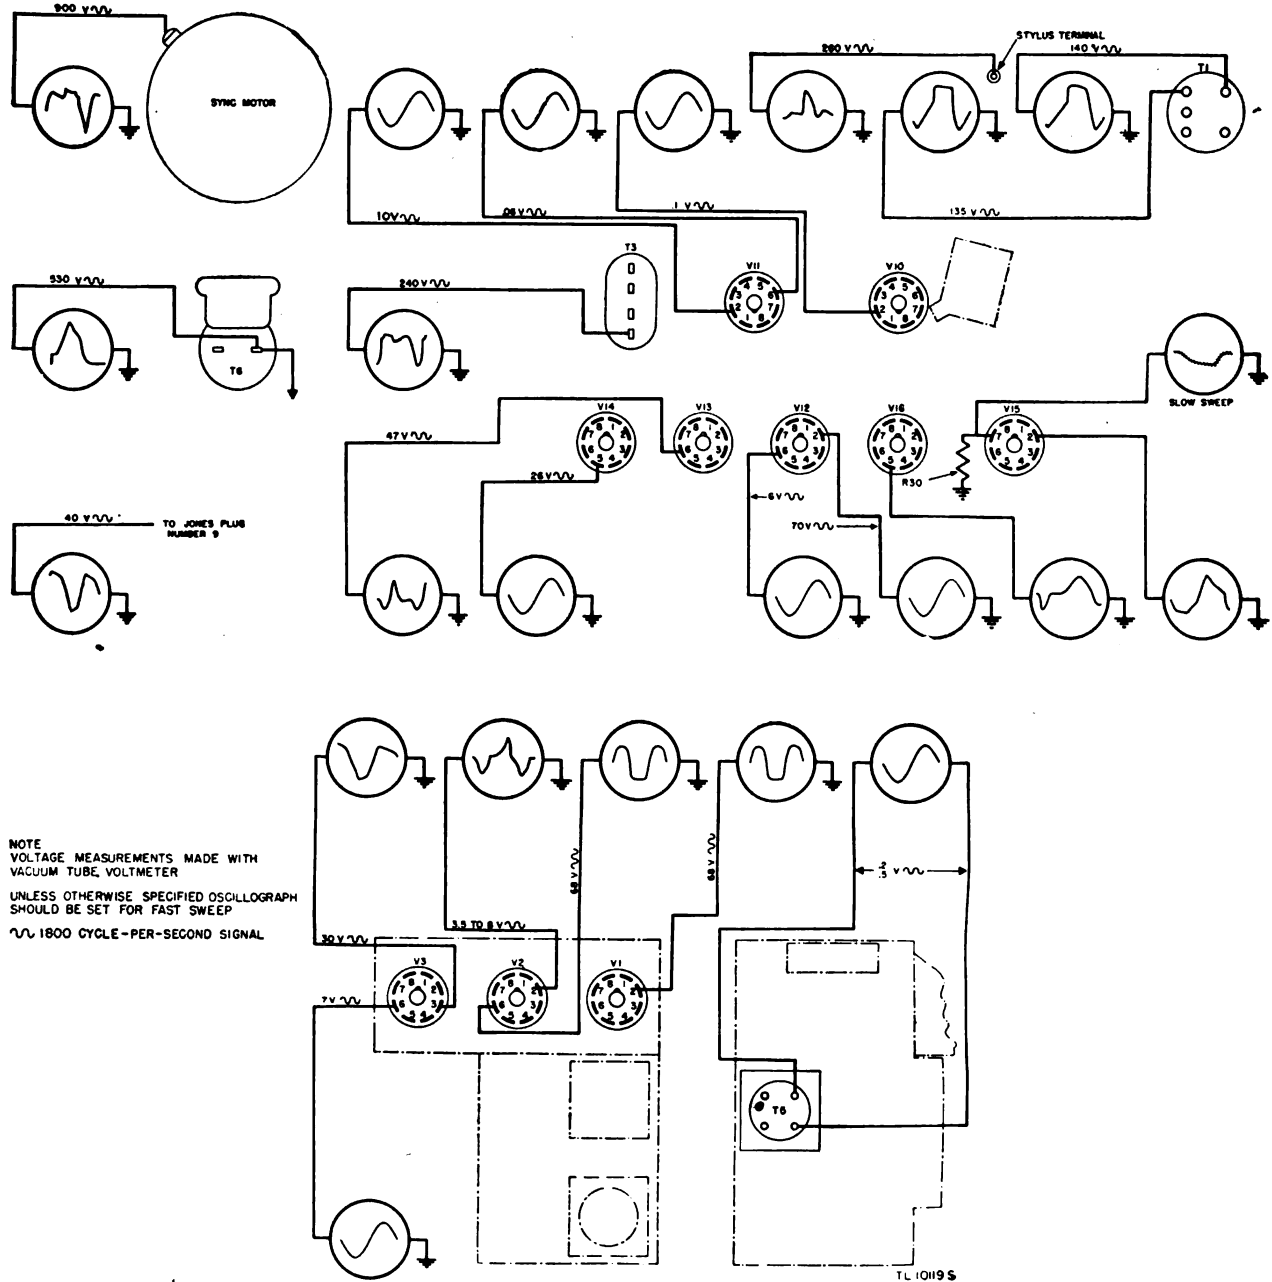

Figure 8. Facsimile Transceiver FX-1, signal tracing chart.
the signal is an important consideration. Therefore, in tracing a signal in a facsimile set an oscilloscope must be used as well as a voltmeter. Reference to the signal tracing charts (figs. 8 and 9) is made in the following paragraphs of this section.
(1) If the input to the motor amplifier is low, the exciter lamp will not light up to its full brilliancy.
(2) If the motor current is between 40 and 85 ma any one or more of the three tubes may be weak.
(3) If the current is less than 40 ma, the trouble will probably be found in a defective component.
(4) If the current is greater than 110 ma, the input to the motor amplifier may be high or one of the output tubes, V5 or V6, may be defective.
(5) If the troubles are not located by the above checks, follow through the signal tracing plans indicated in figure 8.
(2) Condensation or moisture on the tuning fork will cause a frequency drift until the moisture evaporates.
(3) Rusting of the tuning fork will affect the frequency.
(4) Slight changes in component values will affect the frequency.
(5) Deviations from the values shown in the signal tracing chart (fig. 8) may point to the cause of off-frequency operation.
(1) If there is no signal output, measure the voltage across primary T4 to determine if the fork pick-up coil is delivering the proper signal. If it is not, test for continuity of fork coils. If the voltage at T4 is correct, trace the signal in accordance with figure 8.
(2) If mechanical trouble exists in the fork or in its mount, replace the entire fork oscillator unit from depot stock. The fork or mount are not field replaceable parts.
a. SIGNAL TRACING. Apply an input signal of 0.0015 volt to the feed coil jack connector (GE plug receptacle); connect a voltmeter between the grid and ground of stage V14 (par. 64) with the selector switch at RECORD PHOTO and the GAIN control set at 100. The voltage on the grid of V14 should be approximately 26. In some sets, it may be necessary to raise the input voltage to 0.002 to obtain a 26 volt reading on the grid of V14. The oscilloscope should show the waveform as indicated in the signal tracing chart. (See fig. 8.) If the voltage and waveform is not up to requirements, trace the signal through in accordance with the signal tracing chart (fig. 8) to localize the trouble. The performance of stage V14 can be checked by measuring the current in the recorder lamp. The current should be approximately 35 ma with the 26 volts on the grid. This current will vary somewhat with different recording lamps and different 6AC5G tubes. A  $\pm 5$ -ma current is within working tolerance.
(1) Tube 7C5 of stage V12 (par. 62) is cut out by opening the plate circuit. Tube 7N7 of stage V13 (par. 63) is switched in, that is, tube 7N7 takes the place of tube 7C5. This is done for the purpose of increasing the direct recording contrast. The cut-off bias is supplied in part by bias from the cathode circuit of V4 (par. 56).
(2) The output of V14 is switched to transformer T3. The output of T3 delivers the power to the recording stylus. It is to be noted when operating through transformer T3 that the plate voltage on tube 6AC5G is B+ (450 volts).
b. LOW OUTPUT. If the signal amplifier is tested in accordance with the signal tracing chart (fig. 8) and found to be satisfactory, but has a very